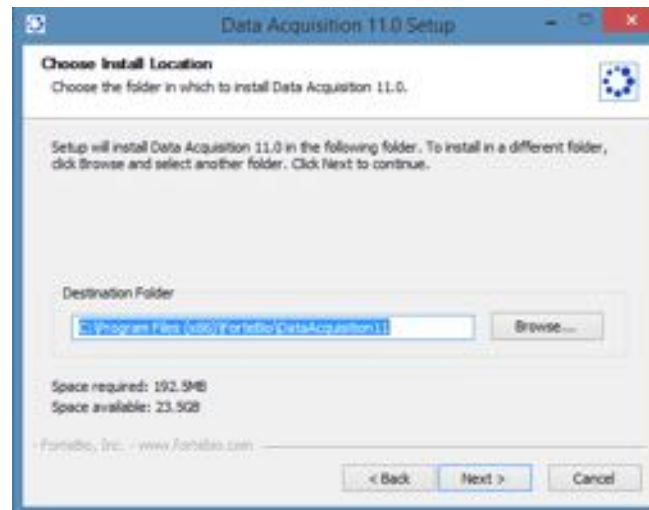

Figure 3-2: Choose Install Location Dialog Box
3. Click **Next** to display the Choose Install Location dialog box (Figure 3-2).